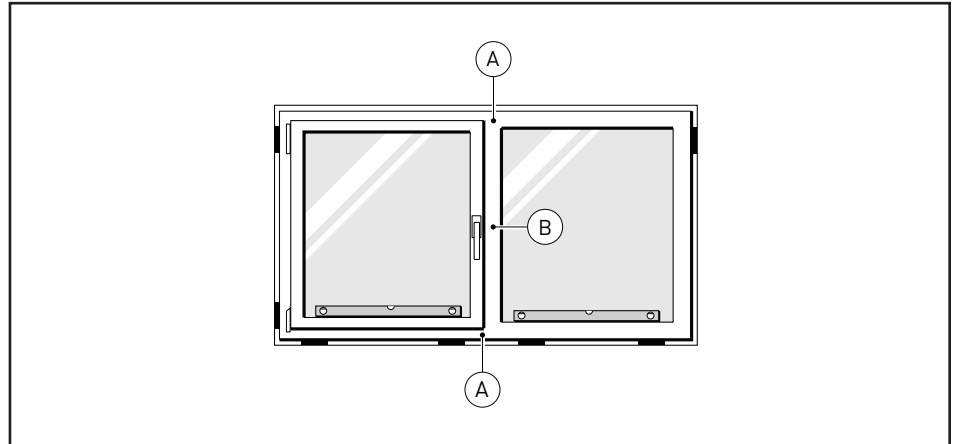

Figure 2-15. Where sashes sometimes bind
2. If the sash hardware binds at the top of the lock stile or at the bottom of the rail, the frame may not be level, or it may be out of square. See fig. 2-15 Item A.
3. Use a spirit level and make sure that the sill is level and that the mullions and jambs are square. If the frame is not level or square, adjust the thickness of the shims to make it level and square. 6.3 If the sash hardware binds at the midpoint either the sash or the mullion became bowed during handling or installation. See fig. 2-15 Item B. Use a straight edge and make